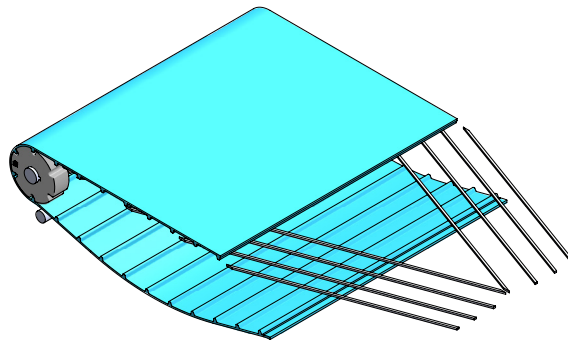

Figure 78
- See figures 78 and 79 for the main dimensions of wearstrips and their positioning.